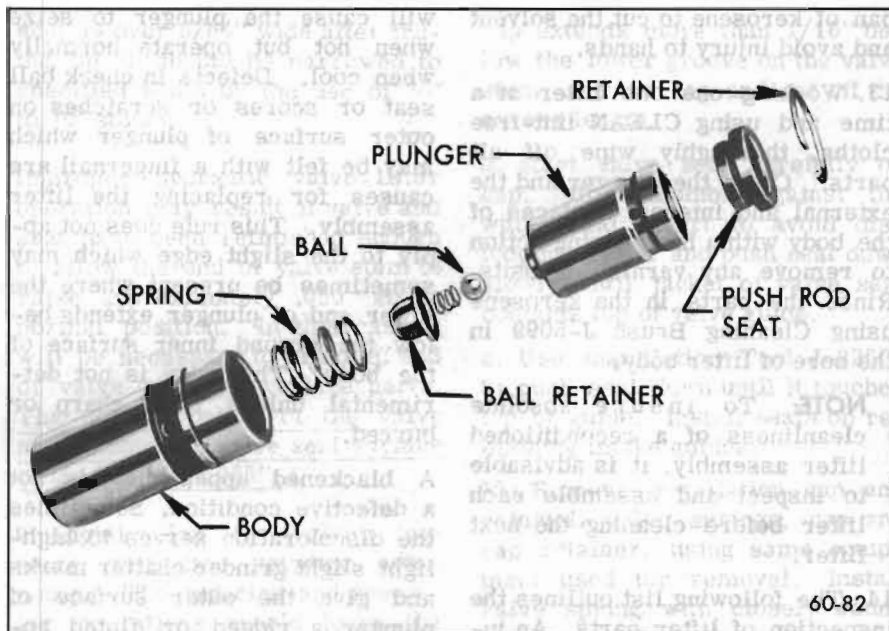

Figure 60-222—Hydraulic Valve Lifter Parts
16. Hold plunger in vertical position with feed hole up, then rinse and install the check ball, check ball spring, ball retainer, spring, and body over the plunger. See parts in Figure 60-222.